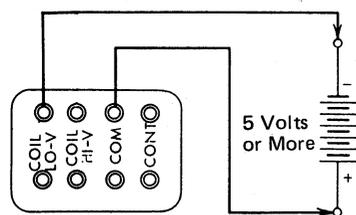

Figure 4-16. Coil Lo-Voltage Connection
2. Five volts or more dc is applied between COIL LO-V and COM with the COIL LO-V lead on the negative side of the circuit and the COM on the positive side of the circuit. This is the low-voltage connection (Figure 4-16).